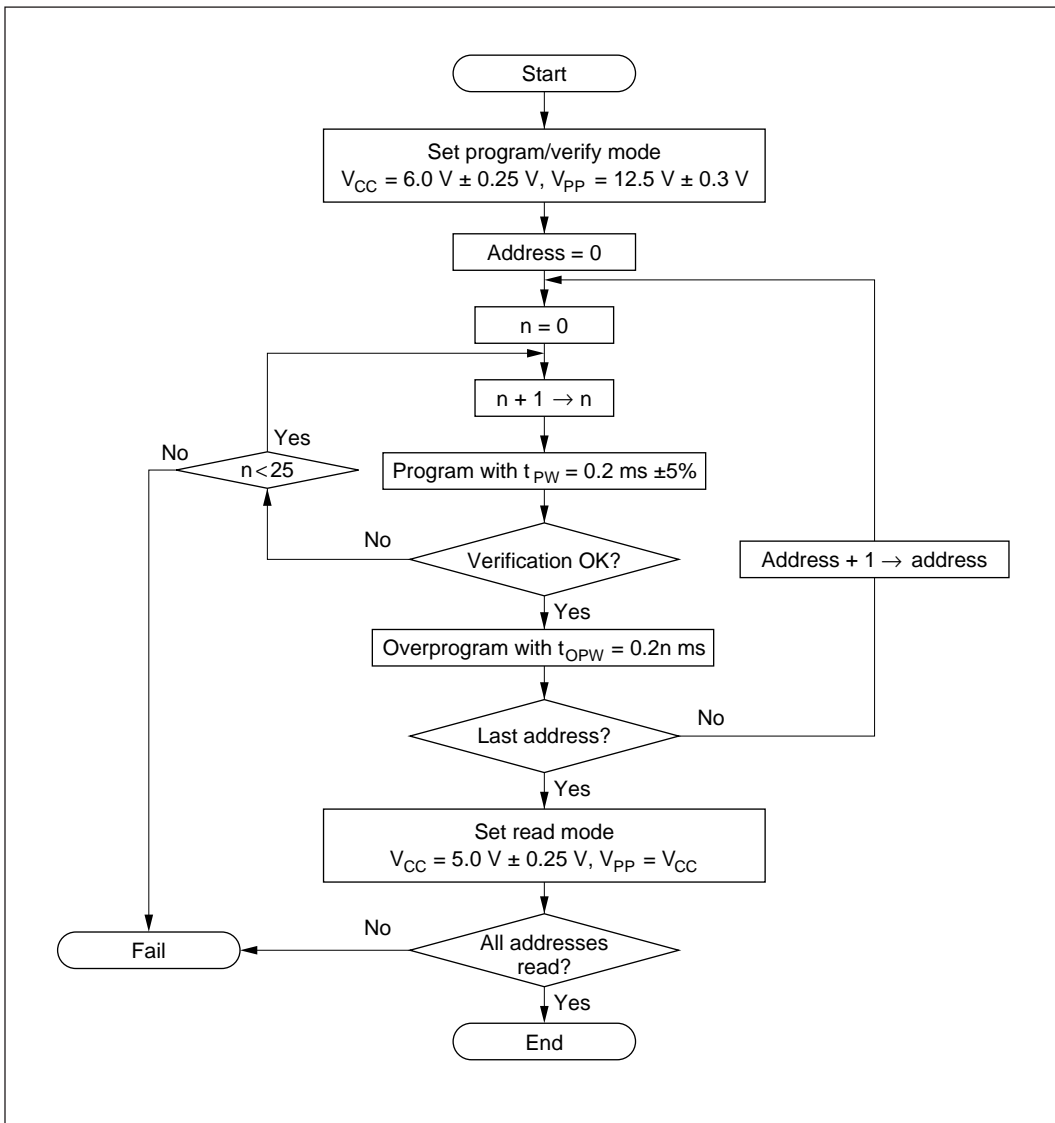

Figure 6-4 High-Speed, High-Reliability Programming Flow Chart
An efficient, high-speed, high-reliability programming procedure can be used to program and verify data. This procedure programs the chip quickly without subjecting it to voltage stress and without sacrificing data reliability. Figure 6-4 shows the basic high-speed, high-reliability programming flow chart.
- t_{OPW} is defined by the value given in the hi-speed, hi-reliability programming flow chart in figure 6-4.